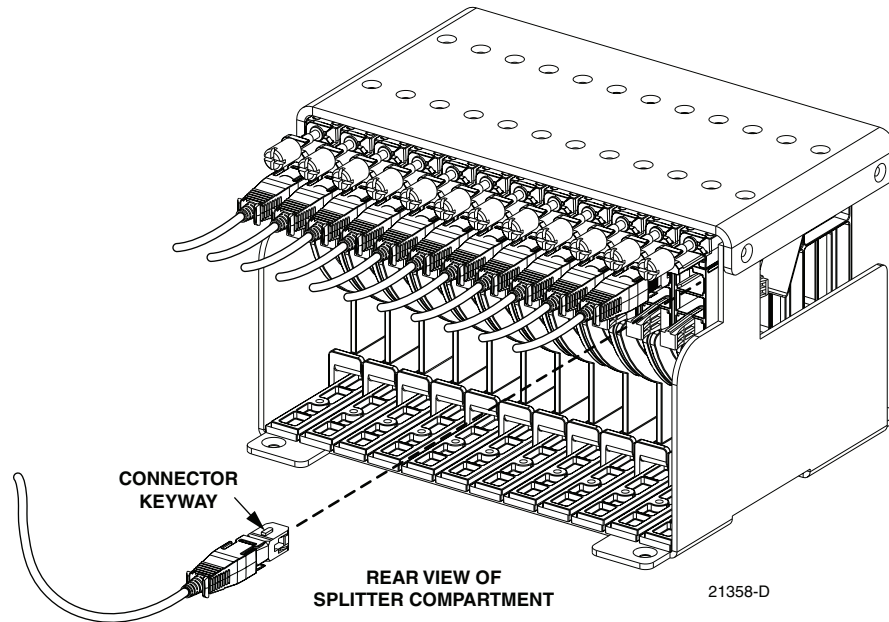

Figure 10. Feeder Cable Connector
3. Remove the corresponding feeder cable connector(s) from the rear of the splitter compartment as shown in Figure 10.
3. Remove the feeder cable connector(s) from the rear of the splitter compartment (see Figure 10).